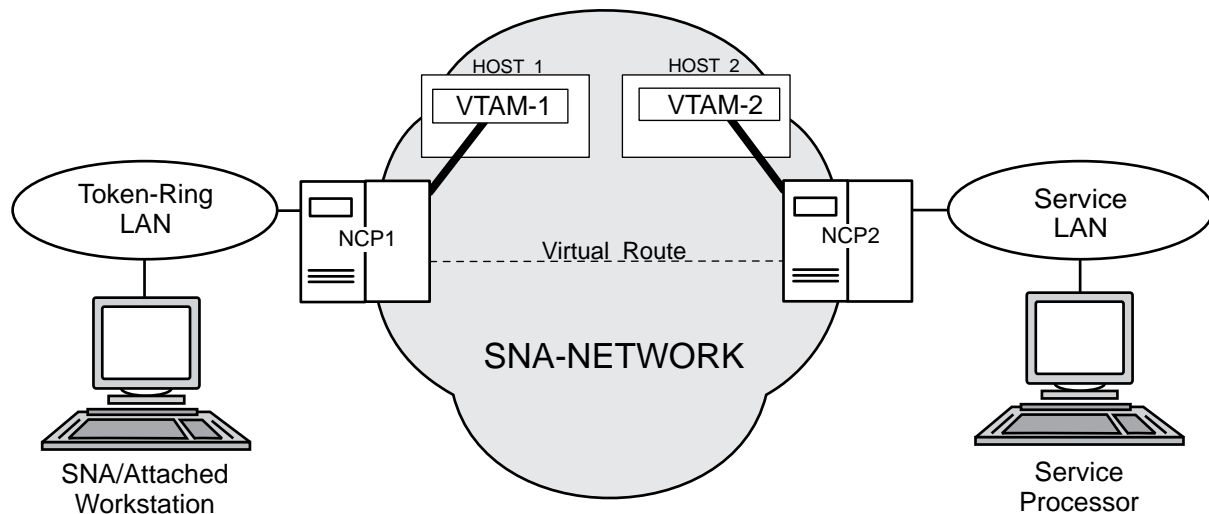

Figure 7-1. SNA Configuration
- Configure a DCAF session for controlling the service processor (see Figure 7-1).
The following definitions apply to NCP1 between the controlling workstation LAN and the SNA network (see Figure 7-1 on page 7-1).